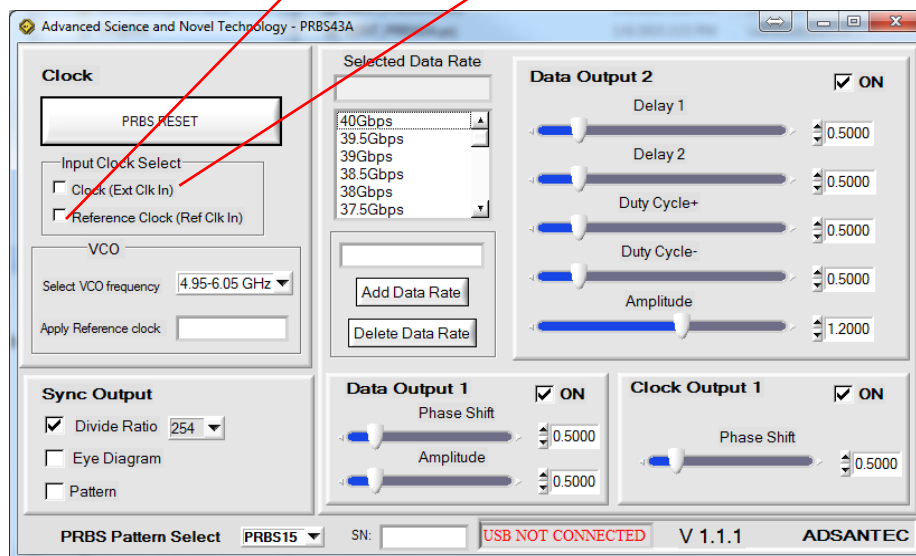

Figure 5. GUI
2.1 Select the desired Clock Mode on the GUI shown in Figure 5.